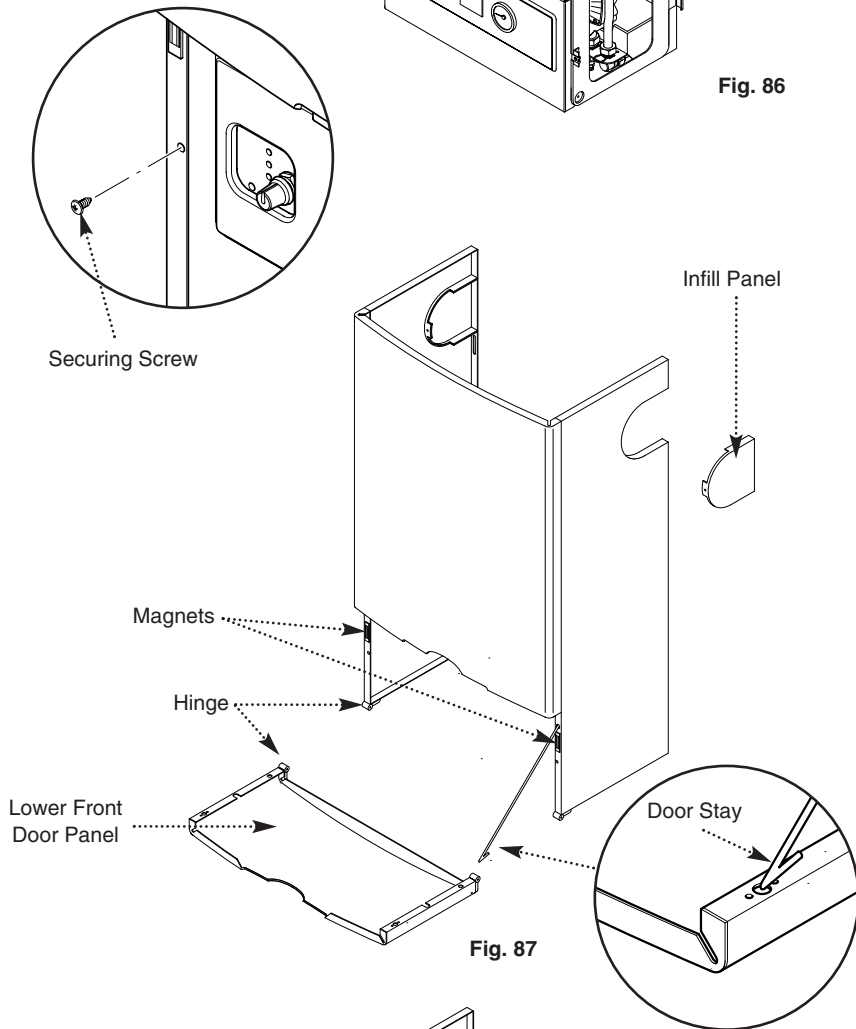

Fig. 87
2. If the appliance is flued to the left or to the right, remove the relevant infill panel from the case by removing the retaining clips and fixing screws (Fig. 87).
5. Replace the lower front door panel, relocate the door stay and hinge upwards, ensuring it is secured by the two magnets (Fig. 87 & 88).